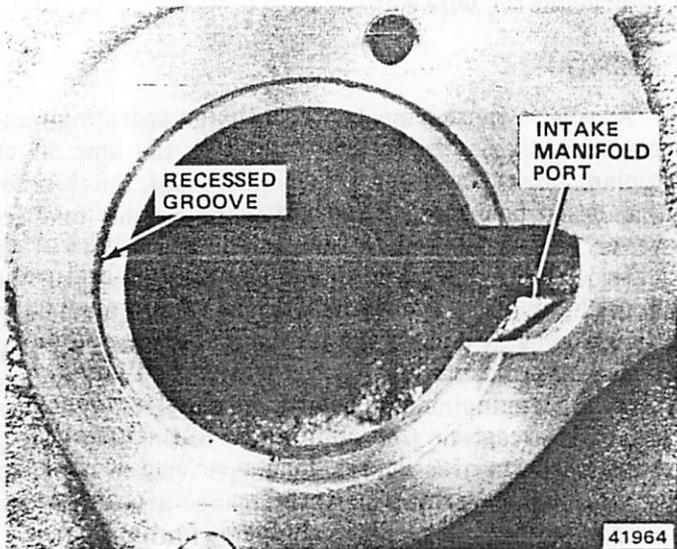

Fig. 1C-6 Thermostat Recess—Six-Cylinder Engine
- (1) Drain coolant from radiator until level is below thermostat housing.
- (2) Four- and eight-cylinder engines: remove upper radiator hose, thermostat housing cover, gasket and thermostat.
- (3) Six-cylinder engine: remove upper radiator and intake manifold hoses, thermostat housing, gasket and thermostat.
- (4) Clean gasket mating surfaces.
- (5) Install replacement thermostat, gasket, housing cover (four- and eight-cylinder engines) or housing (six-cylinder engines).
**CAUTION:** Observe the recess in the cylinder head (six- and eight-cylinder engines) and position the thermostat in the groove (figs. 1C-6 and 1C-7). Next, install the gasket and thermostat housing or cover. Tightening the housing unevenly or with the thermostat out of its recess will result in a cracked housing.